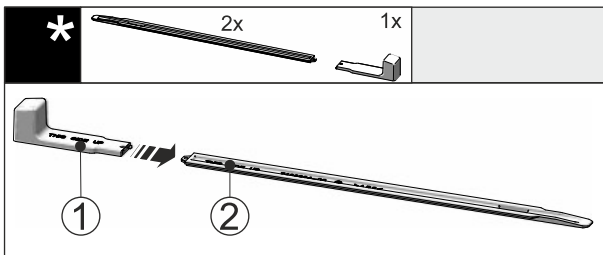

Fig. 47
▶ Attach the installation handle Fig. 47 [1] to the levelling rail Fig. 47 [2].